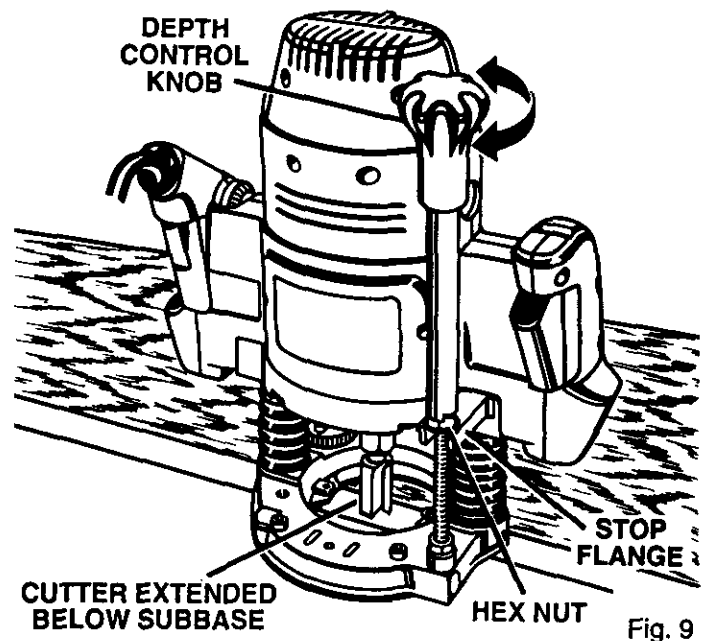

Fig. 9
- Grasp handles and lower router until stop bar contacts stop screw. Squeeze plunge lock actuator, locking cutter at desired depth of cut. See Figure 9.
See Figure 9.